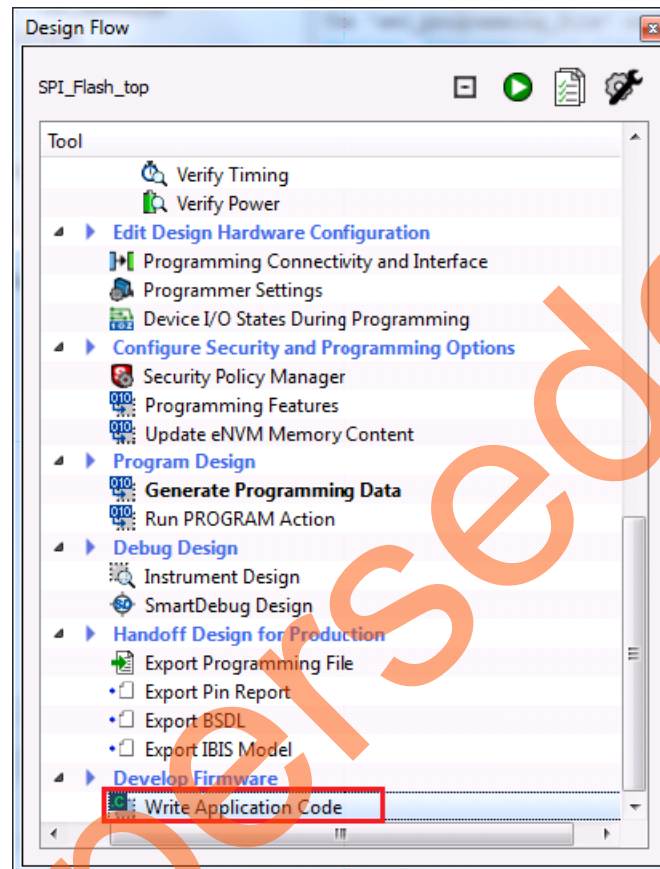

Figure 20 • Invoking Keil uVision from the Libero SoC Software
1. After successful programming, open the Keil uVision project by double-clicking **Write Application Code** under Develop Firmware in the **Design Flow** window as shown in Figure 20.